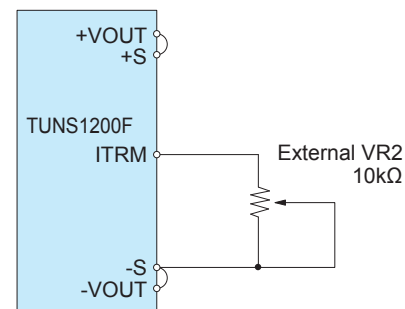

Fig.3.11 Connecting External Devices (TUNS1200F)
■By connecting the external potentiometer (VR2) as shown in Fig.3.11, output current for constant current becomes adjustable.